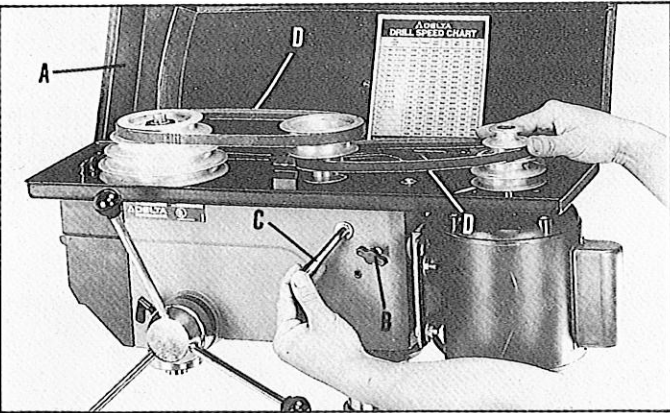

Fig 24
2. Lift up the belt and pulley guard (A) Fig. 24.
3. Release belt tension by loosening tension lock knob (B) Fig. 24, and moving tension lever (C) forward.
4. Position the two belts (D) on the desired steps of the motor, center and spindle pulleys, as shown in Fig. 24.